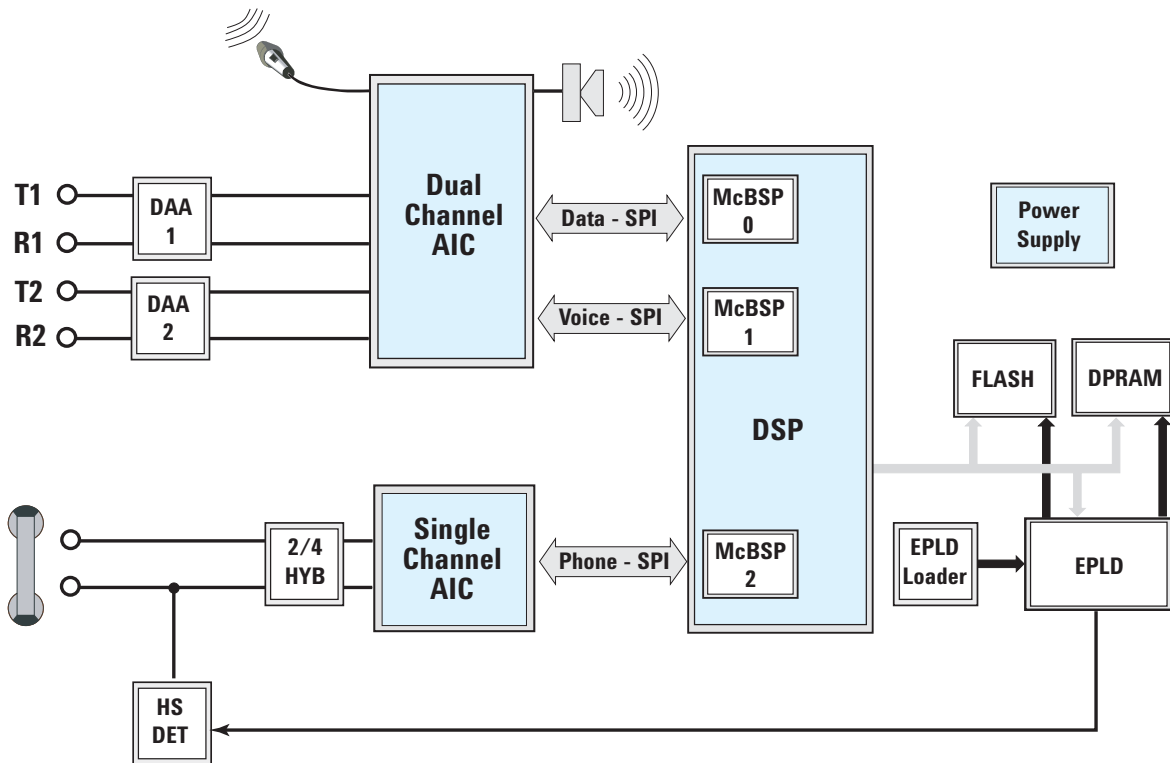

Figure 6. Web Phone Block Diagram; example of a multi-slave SPI bus, DSP-based system.
data output). The control lines include SCLK (serial clock), and SS (slave select). The master may transmit data at a variety of data rates. The serial clock control line is driven by the master and controls the flow of the data bits and cycles once for each bit transmitted. The slave select control line allows slaves to be turned on and off with hardware control. Unlike I²C, the SPI protocol does not have a start of frame; the chip select or slave select (SS) going high or low (depending on the device) frames the data. Figure 6 shows a block diagram of a web phone, which is an example of a multi-slave system.